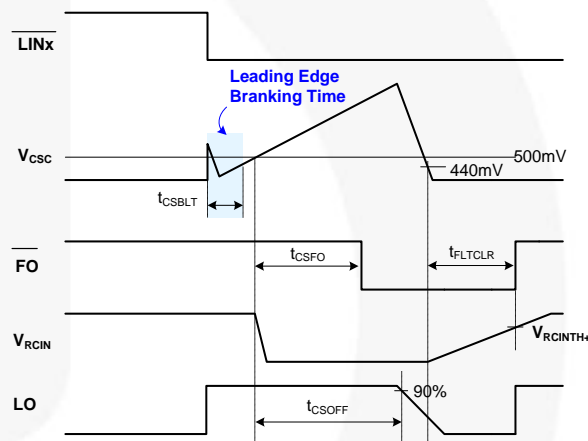

Figure 43. RCIN and Fault-Clear Waveform Definition
Figure 43 shows the waveform definitions of RCIN, \overline{FO} , and the low-side driver; which uses a soft turn-off method when an under-voltage condition of the low-side gate driver supply voltage (V_{DD}) or the current-sense pin (CS) recognizes a fault. If a fault condition occurs, the \overline{FO} Pin is internally pulled to COM and all outputs (HO1,2,3 and LO1,2,3) of the gate driver are turned off. Low-side outputs decline linearly by the internal sink current source ($I_{SOFT}=40\ mA$) for soft turn-off, as shown in Figure 43.